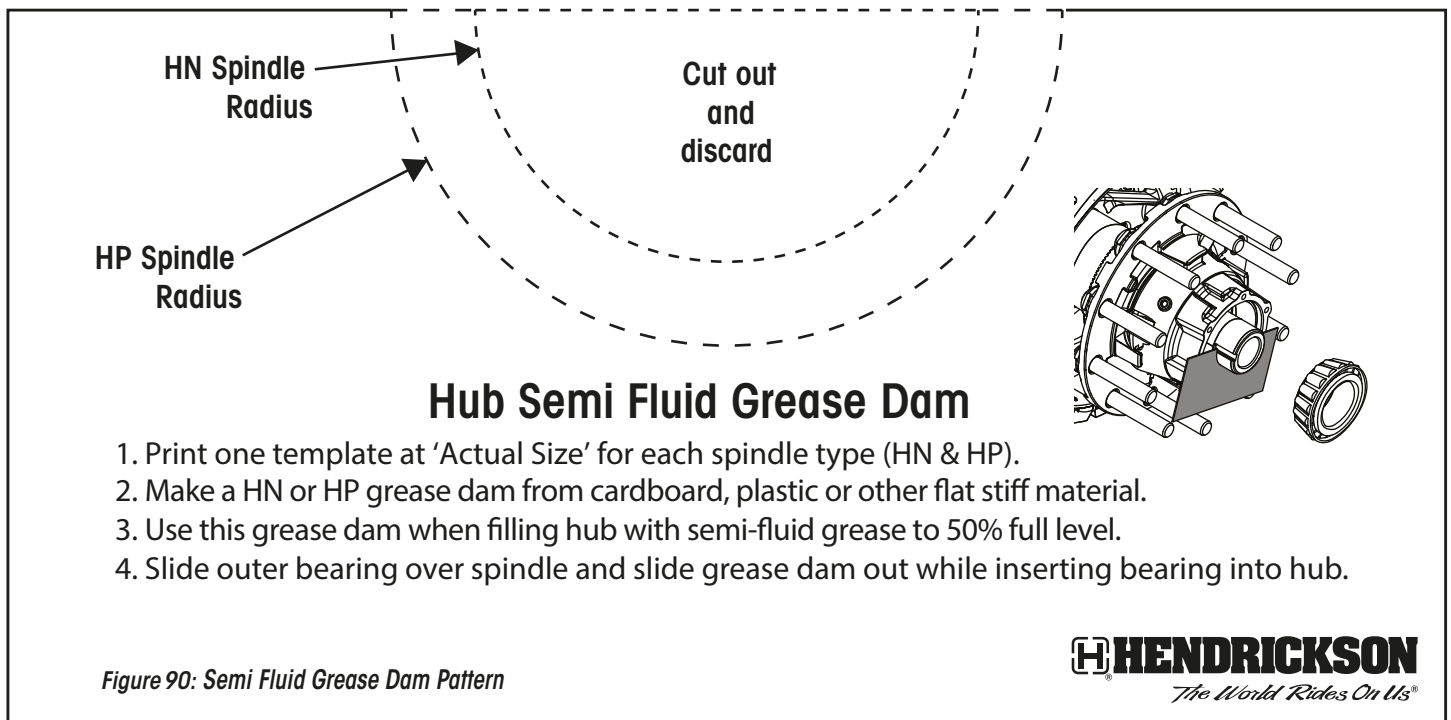

Figure 90: Semi Fluid Grease Dam Pattern
2. Make a semi fluid grease dam by printing the pattern Figure 90 on page 84. Select "**Actual Size**" from the printing options to ensure the pattern is the right size.